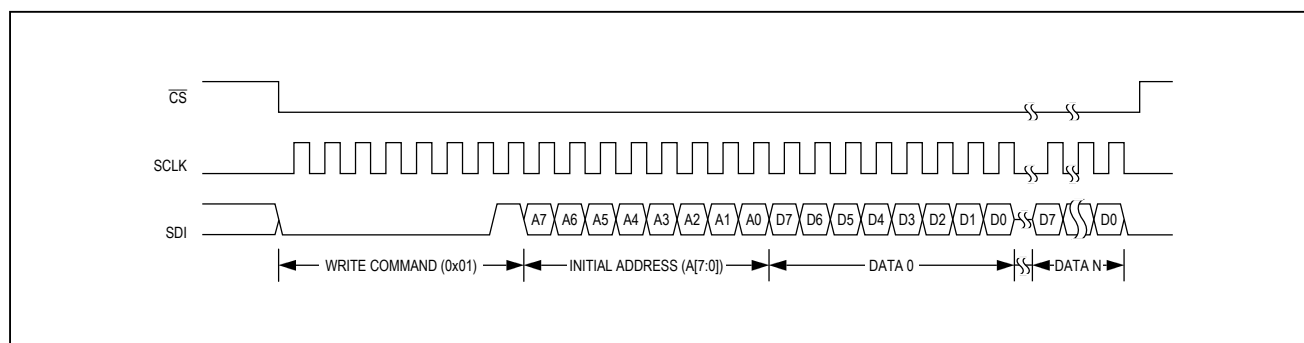

Figure 3. SPI Write Command Format
**Write:** The write command (0x01) is used to program the MAX7057 registers (see Tables 2 and 3). The format shown in Figure 3 must be followed, allowing all the registers to be programmed within one  $\overline{\text{CS}}$  cycle.